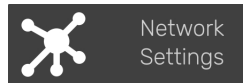

Figure 34 - Network Settings Button
1. On the touchscreen, tap the **Network Settings** button (**Figure 34**).